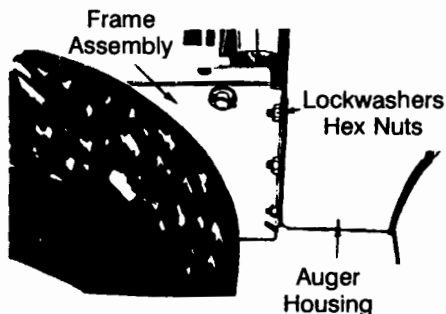

FIGURE 26
- Remove the six lockwashers and hex nuts which attach the auger housing assembly to the frame. See Figure 26.